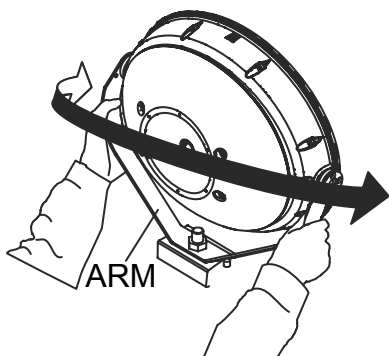

Figure 9. Rotating a Lamp
1. Hold the arms of the individual lamp and rotate it to the desired direction (Figure 9). It is not necessary to loosen the nut to turn the lamps.